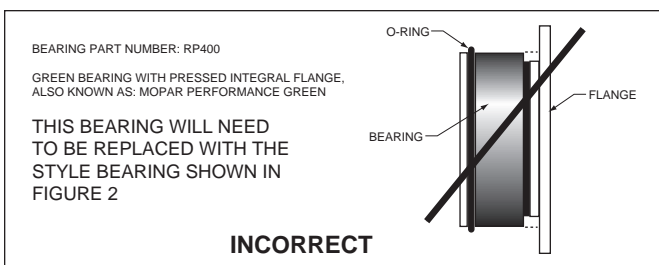
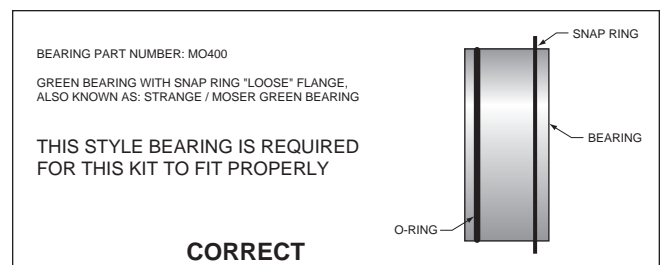

Figure 1. Press Fit Bearing Configuration
Figure 2. Loose Fit Bearing Configuration
- There are two types of “Green Bearings” being supplied by axle manufacturers. Your setup should look like Figure 2 (below right), not the Figure 1 configuration, otherwise this kit will not fit.
- That the bearing is the snap ring style bearing with removable flange (see Figure 2, preceding page).
•Determine that the appropriate snap ring style Green bearing has been installed on the axle, as shown in Figure 2. Remove snap ring from bearing and slide retainer (2) (full circle retainers only, "U" retainers can be installed later) and caliper mounting bracket assembly (1) onto axle and over bearing assembly. Reinstall snap ring (this can also be accomplished at the time of bearing installation on axle without the removal of the snap ring). Insert axle with caliper mounting bracket assembly into axle end. Align bracket (1) and retainer (2) with the five holes in the axle end and secure using the stock Original Equipment Manufacturer (OEM) bolts and nuts. Stock OEM hex nuts that retain the caliper mounting bracket assembly (1) and retainer (2) should be on the wheel side of the bracket. Apply red *Loctite*® 271 to the stock OEM bolt threads and torque to OEM specifications. Make sure the heads of the caliper mounting bracket assembly (1) insert nuts are FACING OUTWARD TOWARDS THE WHEEL.